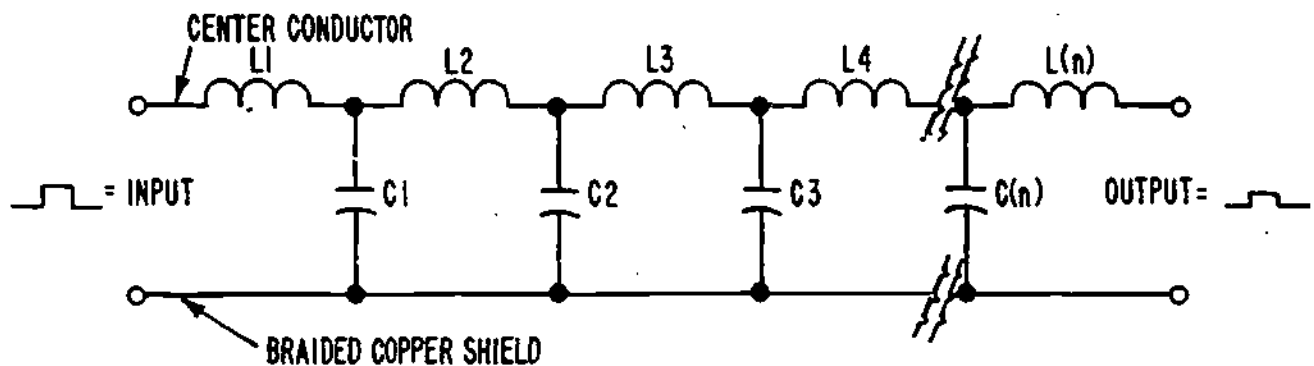

Figure 8
- ⑩ The time delay in coaxial cable can be explained by referring to the equivalent inductors and capacitors shown in Figure 8.
In Figure 8, L_2 will (aid/oppose) the charge of C_2 , causing a time delay.